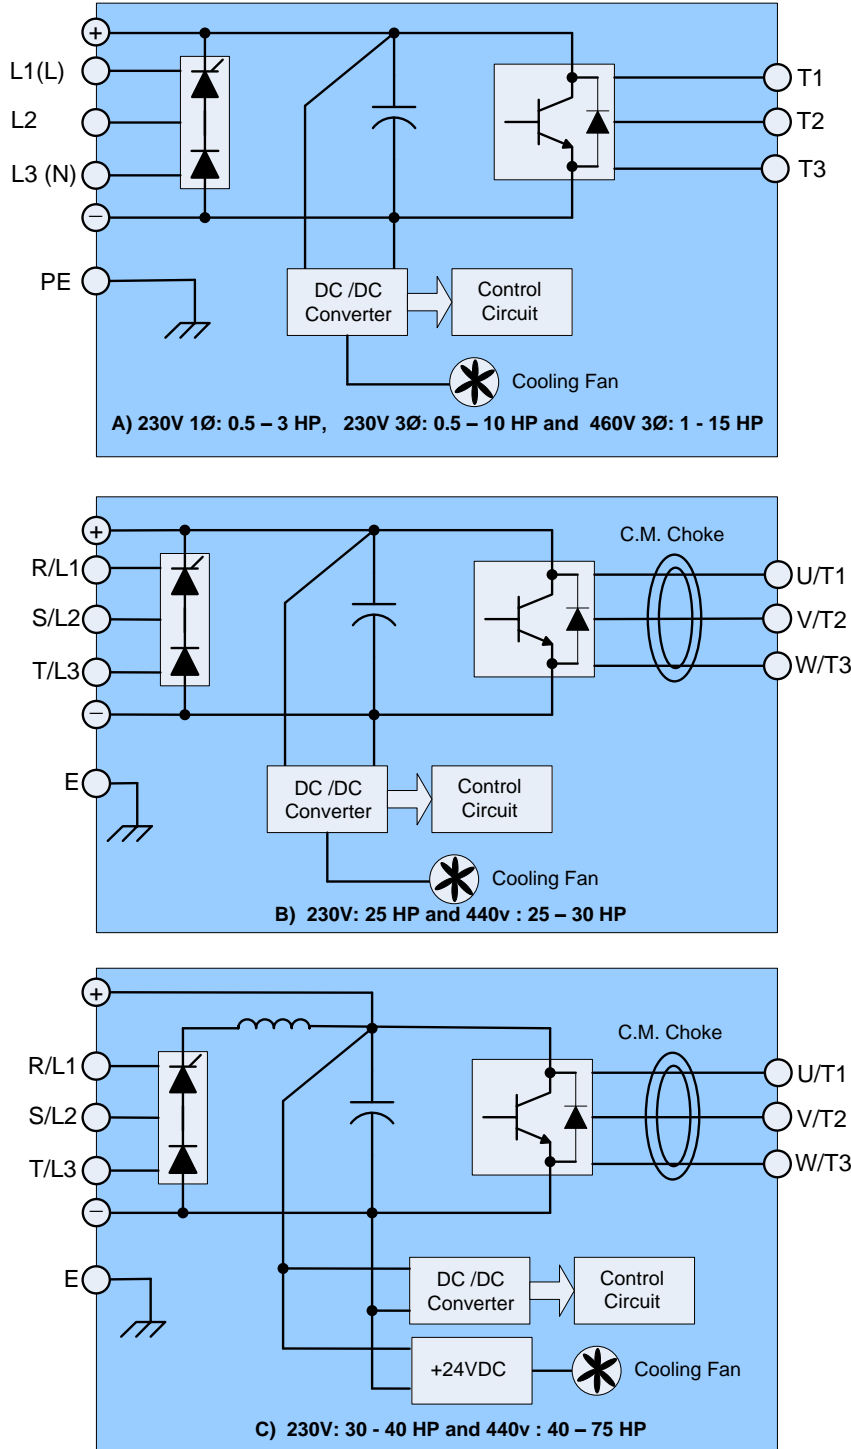

**Fig. 8.6 Input Power Wiring and Installation Examples**
Fig. 8.6 shows input power installation recommendations with correct and incorrect examples.
- When possible the inverter should be connected to a dedicated input power source. (Fig. 8.6 a)